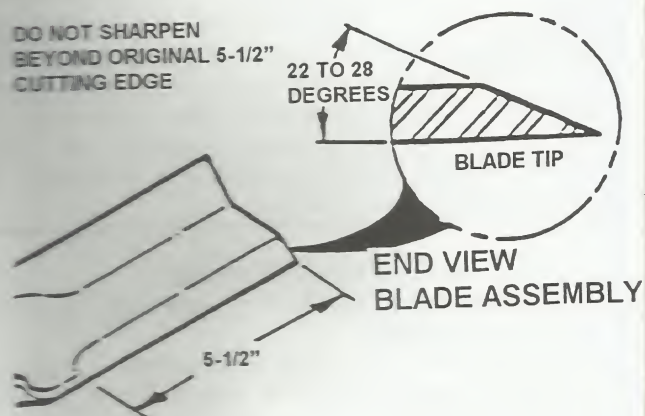

FIGURE 4.3
4. Sharpen blade on a grinding wheel at an angle of 22 to 28 degrees. The cutting surface should extend inward about 3-1/2" from the tip. See Figure 4.3.